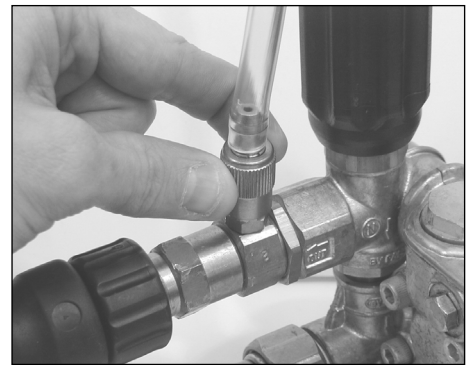

Figure 17 - Detergent injection adjustment
4. If equipped, adjust the detergent injection flow by turning the collar of the injector. Turning collar clockwise decreases flow of detergent and turning collar counter clockwise increases detergent flow (See Figure 17).